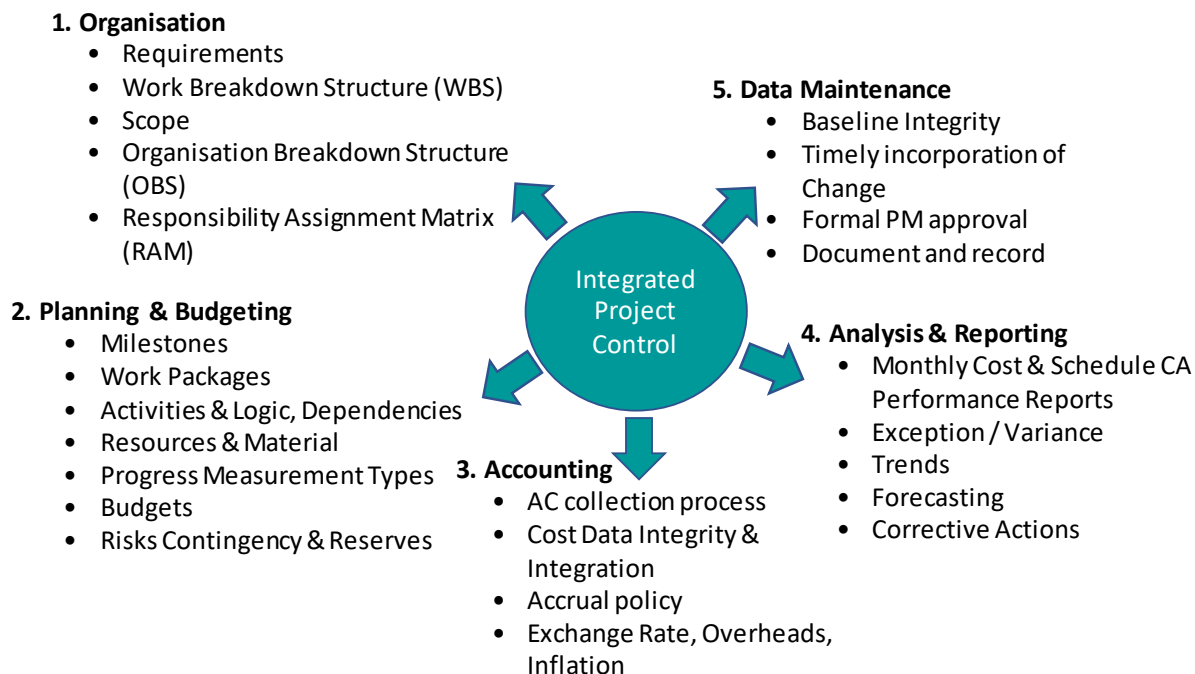

Figure 1.3
An Earned Value Management System needs to be implemented to capture the Actual Cost (AC), Planned Value (PV) and the Earned Value (EV). The establishment of an EVM system should be setup in accordance with the APM EVM Guidelines (32 criteria) or ANSI-748, which is outlined in Figure 1.3. The systems should be setup to address the point illustrated below and to ensure the integration of programme and cost reporting.